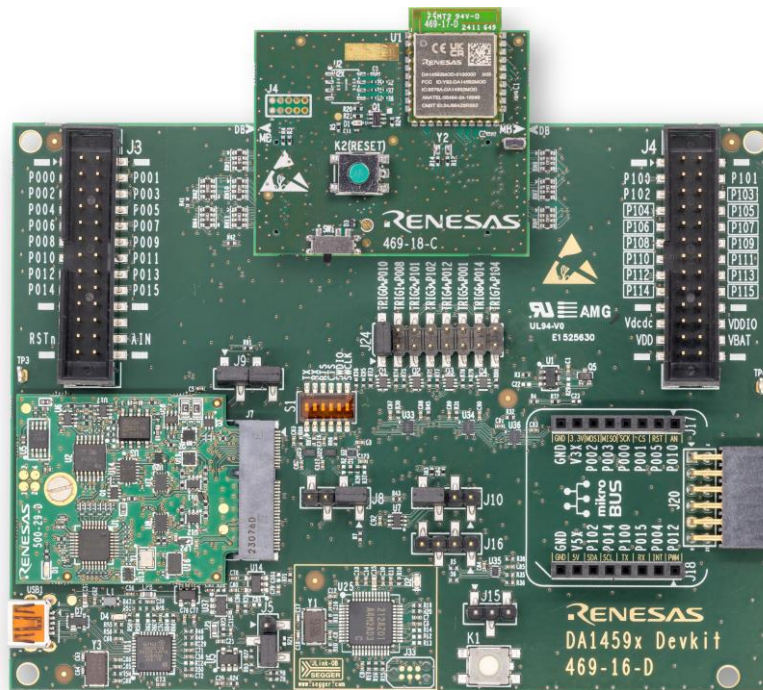

Figure 2. DA14592 SmartBond Module DevKit
DA14592 SmartBond Module Development Kit (DevKit) is implemented on a Daughterboard (DB) (469-18-C), and it comes with DA1459x Pro DevKit (469-16-D) and PMM2 (500-29-E), see Figure 2.